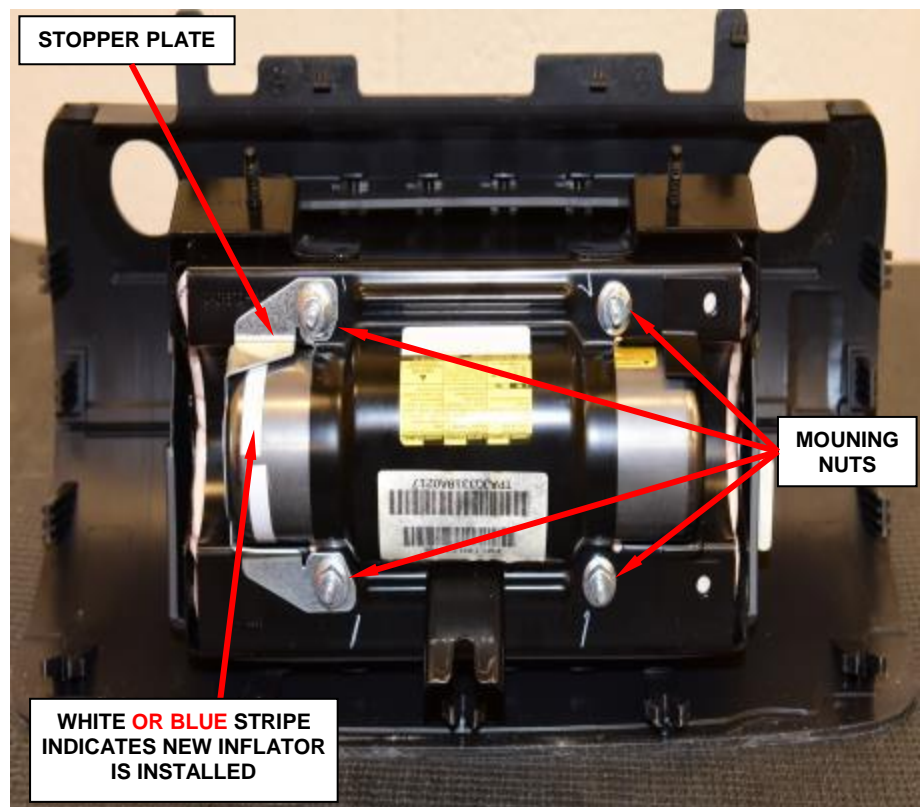

Figure 122 – Retrofit Complete
- o. Install the stopper plate to the airbag module (Figure 122).
- p. Install the four new mounting nuts to the airbag module and tighten to 62 in. lbs. (7 N·m) (Figure 122).
- q. Passenger airbag retrofit is complete (Figure 122).